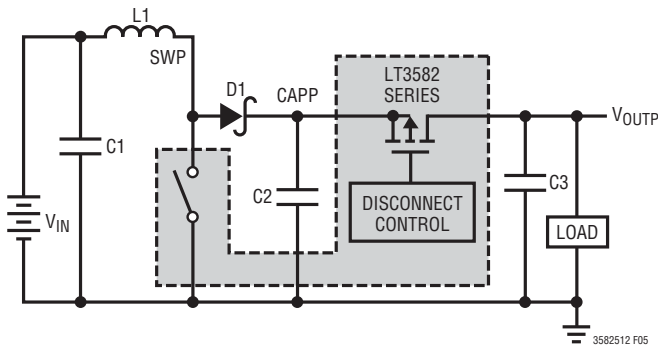
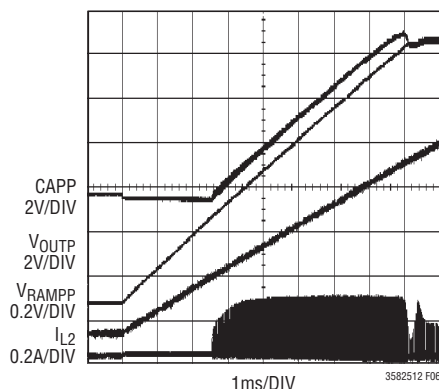

Figure 5. Boost Converter Topology
Figure 6.  $V_{OUTP}$  Soft-Start Ramping from Ground
For example, selecting  $I_{RAMP} = 1\mu\text{A}$ ,  $C_{RAMP} = 10\text{nF}$  and  $V_{OUTP} = 12\text{V}$  results in a power-up ramp rate of 1.5Volt/ms (see Figure 6).
**Ramping  $V_{OUTP}$  from Ground:** The LT3582 series has the unique ability to generate a smooth  $V_{OUTP}$  voltage ramp starting from ground and continuing all the way up to regulation (see Figure 6). This ability is not possible with typical Boost converters in which the output is taken from the cathode of the Schottky diode (CAPP node in Figure 5).
The LT3582 series incorporates an output disconnect PMOS allowing  $V_{OUTP}$  to be grounded during shutdown. Once enabled, the Disconnect Control circuit actively drives the PMOS gate allowing  $V_{OUTP}$  to ramp up linearly as shown in Figure 6. Once  $V_{OUTP}$  reaches regulation, the PMOS is fully turned “on” to reduce resistance and improve efficiency.